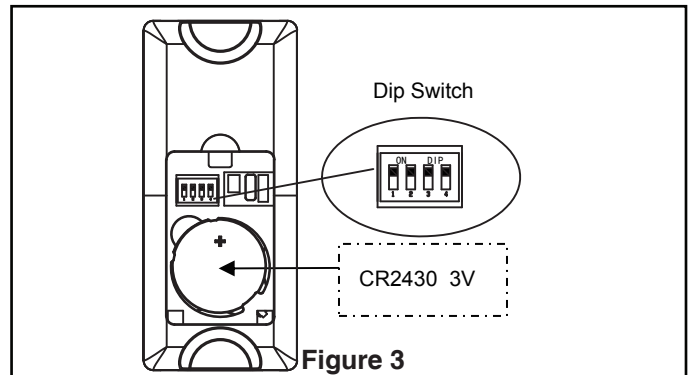

Figure 3
- Pairing Process for Receiver & Transmitter:** (Figure 3)
- The receiver and accompanying transmitter are matched at the factory. If replacing transmitter or receiver, you must follow the pairing process below before using the unit. The fanLink receiver can be paired to up to five (5) transmitters. **NOTE:** Smart device pairing is unlimited.
- After installing the receiver unit, set desired transmitter code by pushing dip switches (under battery cover) up or down to the desired positions. Once code is set, restore power to your fan and press and hold the fan off button (□) for approximately 1 to 3 seconds. Fan will turn off, then turn on to medium speed to indicate that the pairing process is complete. Please note that you must press the fan off button (□) within 30 seconds after restoring power. Re-pairing your device is not necessary after replacing the battery. Each fanLink receiver can pair to five (5) different transmitters (with different dip switch codes). **NOTE:** Transmitters can pair to multiple receivers, when performing the pairing process take care not to pair the transmitter to unintended receivers. It is suggested that fans more than seven feet apart be on separate power switches.